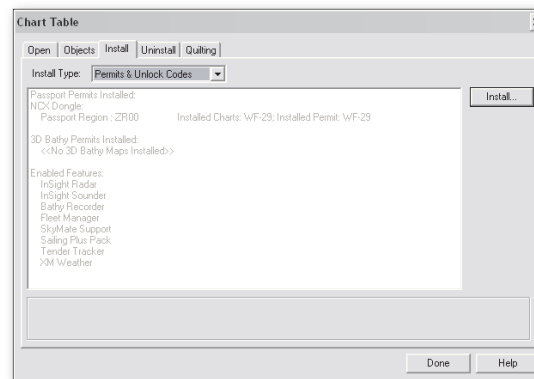

Figure 2.2 - Chart Table Install Tab
3. Click the **Install** button to the right of the Chart Table (Figure 2.2).